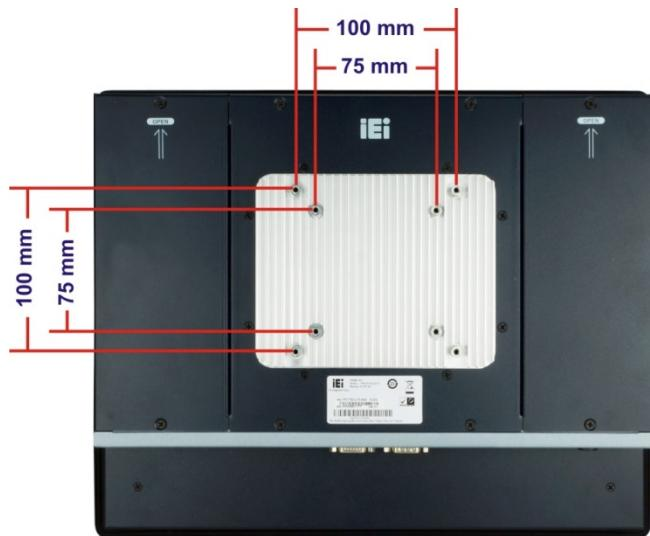

Figure 3-18: Arm Mount Retention Screw Holes
Step 3: Align the retention screw holes on the mounting arm interface with those in the PPC-FxxD-ULT5. The PPC-FxxD-ULT5 arm mount retention screw holes are shown in **Figure 3-18**.